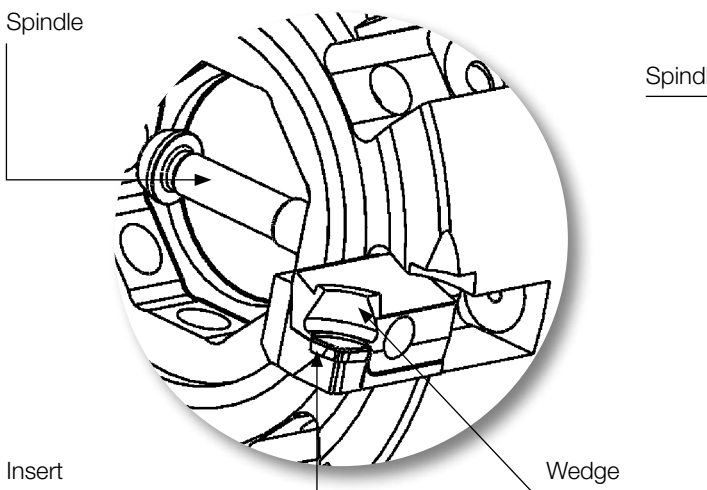

FIG. 3
- Insert cutter together with clamping wedge into the slot on the base body, to prevent misalignment of both components they must be pressed against the contact surfaces of the base body. (fig. 3)